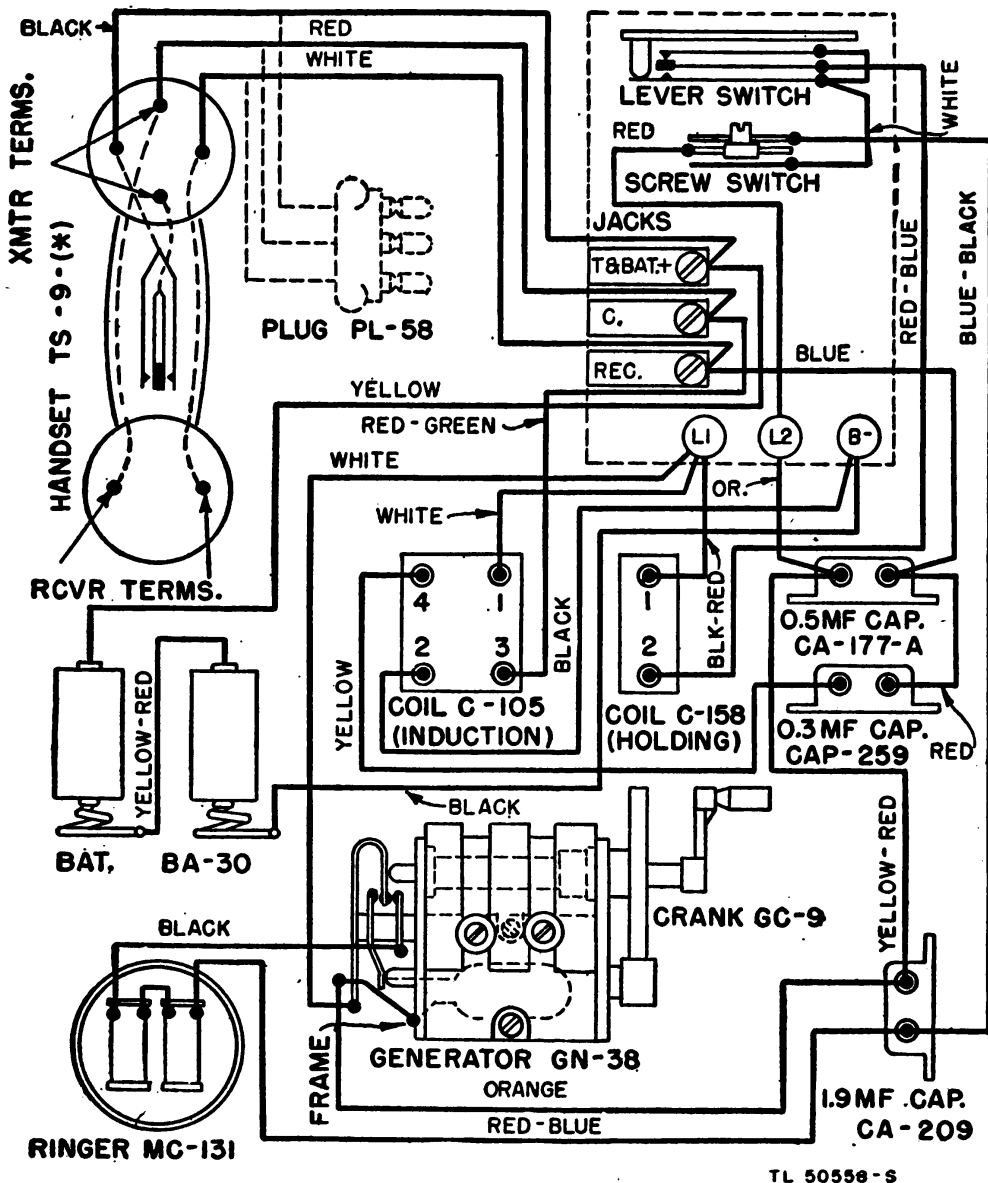

Figure 27. Telephone EE-8—wiring diagram.
- (1) Trouble-shooting chart (par. 48).
- (2) Wiring diagrams of Telephone EE-8-(\*) (figs. 27, 28, and 29).